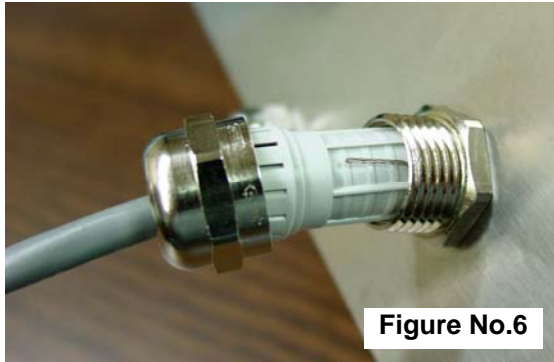

Figure No.6
- Referring to Figure No. 6, fold the shield wire back over the plastic insert and then insert the plastic insert (with the shield wire) into the gland connector.